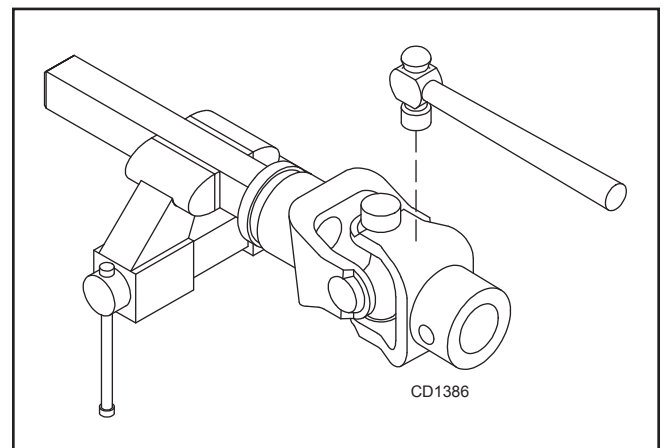

Figure 25.
2. With snap rings removed, support drive in vise, hold yoke in hand and tap on yoke to drive cup up out of yoke. See Figure 25.